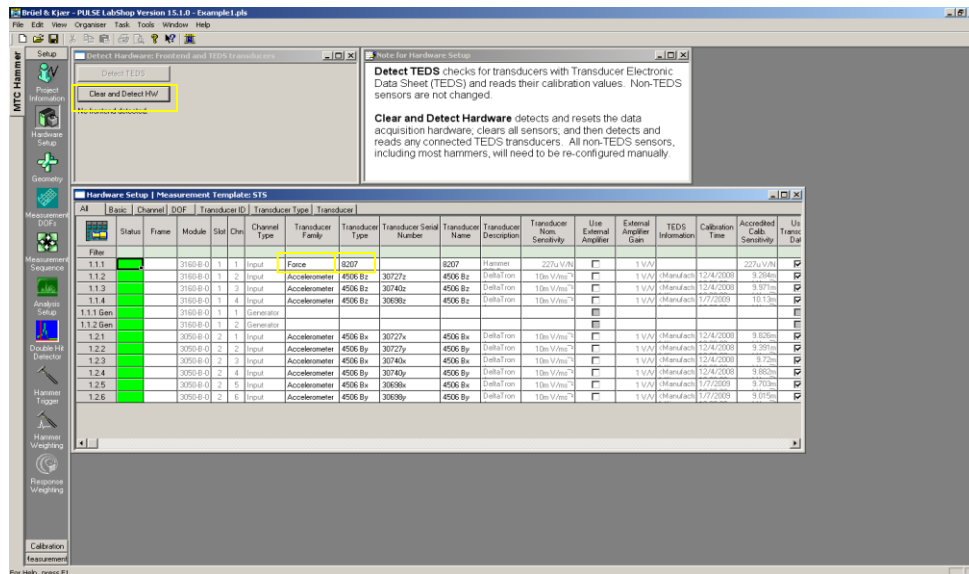

Figure 1: The “Clear and Detect HW” button is boxed in the upper left corner. The Transducer Family and Type windows can be found near the center of the screen.
- If the input modules are not being detected, hit “Clear and Detect HW” (see Figure 1). If this still does not work, open Front-end Setup and see if the desired modules are being detected. Otherwise you can Browse and Add devices. Once the front-end setup matches the expected setup, you can hit apply configuration. Now hitting “Clear and Detect HW” on the Hardware Setup screen of the PULSE LabShop should show your configuration accurately.
- Some elements, in our case the hammer, have to be added manually. Just double-click the transducer family window of the correct row (see figure 1) and add in the title. Similarly, add the transducer type into the appropriate window.